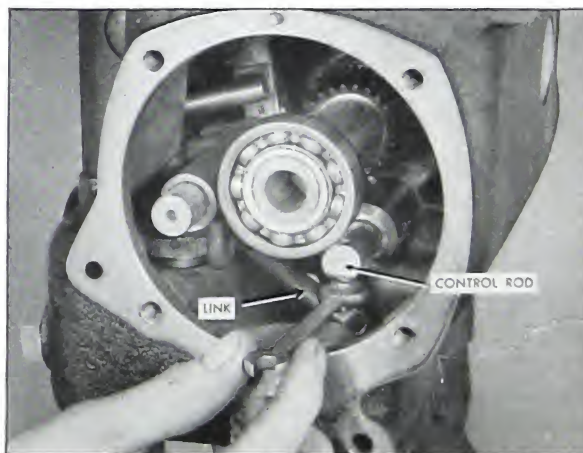

Fig. 5-145. Assembling governor link
9. Remove the "dummy" No. 1 gear pump housing from the main housing and assemble the governor link with lockwasher to the governor control rod as shown in Fig. 5-145.